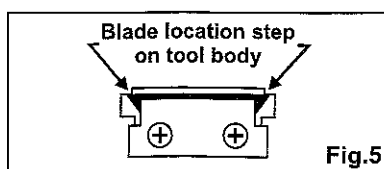

Fig.5
1. Carefully observe blade placement as shown in Figure 5. The front blade corners rest against the molded step in the tool body.
4. Install new blade and locate it as shown in Fig 5. Reinstall blade cover and screws.